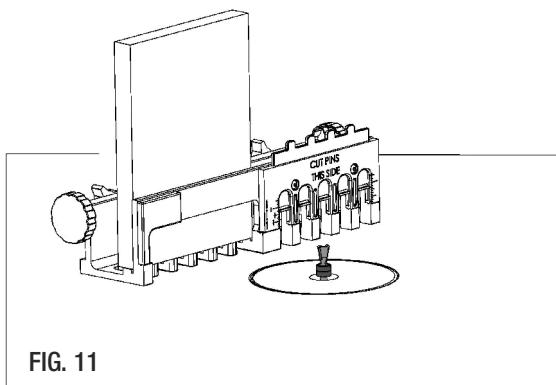

FIG. 11
6. Clamp the board to a workbench or secure it in a vice as shown (FIG. 10) or if using a router table, make sure the face saying "cut tails this side" is faced to the router table (FIG. 11).